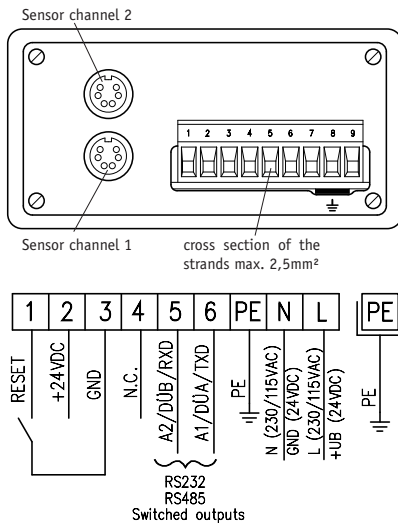

Fig. 2: Pin outs EG
- PE-connection with 2,5 – 4mm² via PE-clamp (fig. 2).
via 6-poles rear side Mini-Din socket (fig. 2/fig. 3).